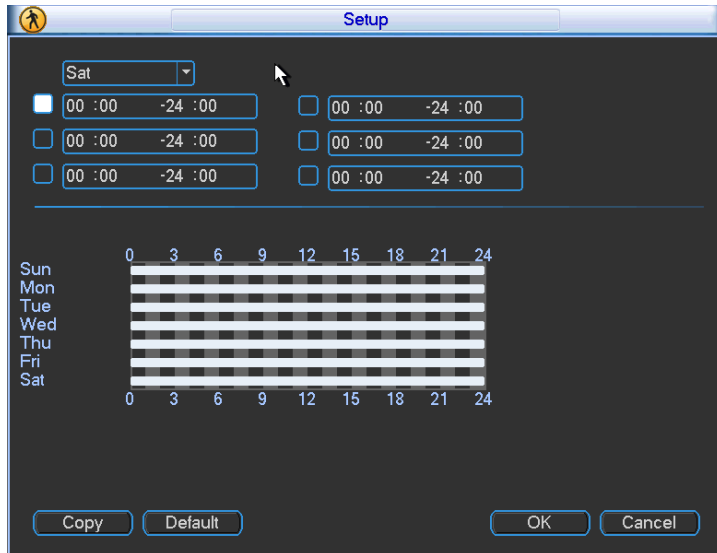
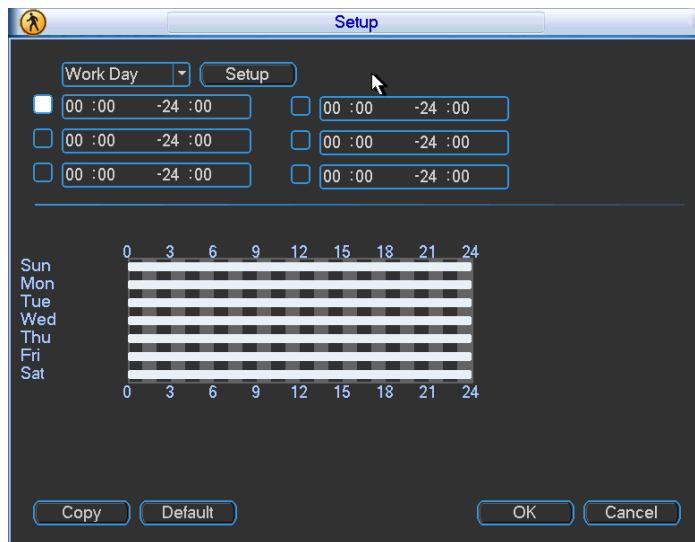

Figure 4-28
Figure 4-29
- Period: Click set button, you can see an interface is shown as in Figure 4-28. Here you can set motion detect period. System only enables motion detect operation in the specified periods. It is not for video loss or the camera masking. Please select Sunday to Saturday from the dropdown list. You can see there are six periods for you to set. Please note you need to check the box before the period to enable the period setup valid. In Figure 4-28, select work day or non-work day from the drop down list, and then click the Set button, you can set your own business day and non-business day setup. See Figure 4-29. You can set